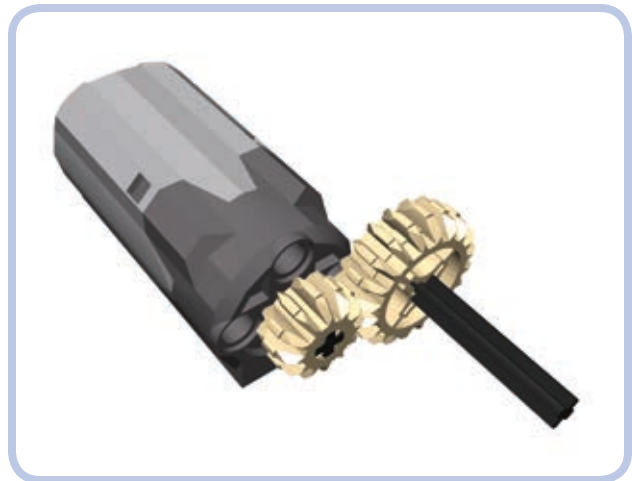

Figure 5-1: Gearing down
- * Driving a large gear with a small gear increases the torque but decreases the speed. This is called *gearing down* (see Figure 5-1).